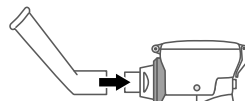
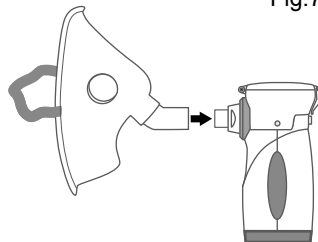

Fig.7
Fig.8
4. Place the mouthpiece (Figure 7) or mask (via an adapter for masks) (Figure 8).